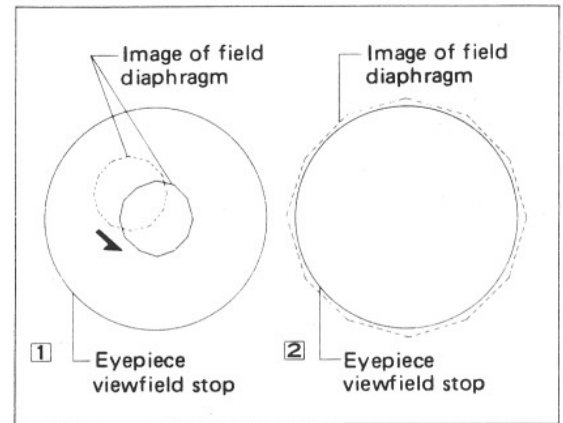

Fig. 11
- 2) Bring the field diaphragm image to the center of the field of view by means of the condenser centering screws. (Fig. 11 - ①)
- 3) Change over to the objective  $40\times$ , and adjust the field diaphragm so that the image of the diaphragm is about the same as the eyepiece viewfield stop, as shown in Fig. 11 - ②. If not centered, use the condenser centering screws again.